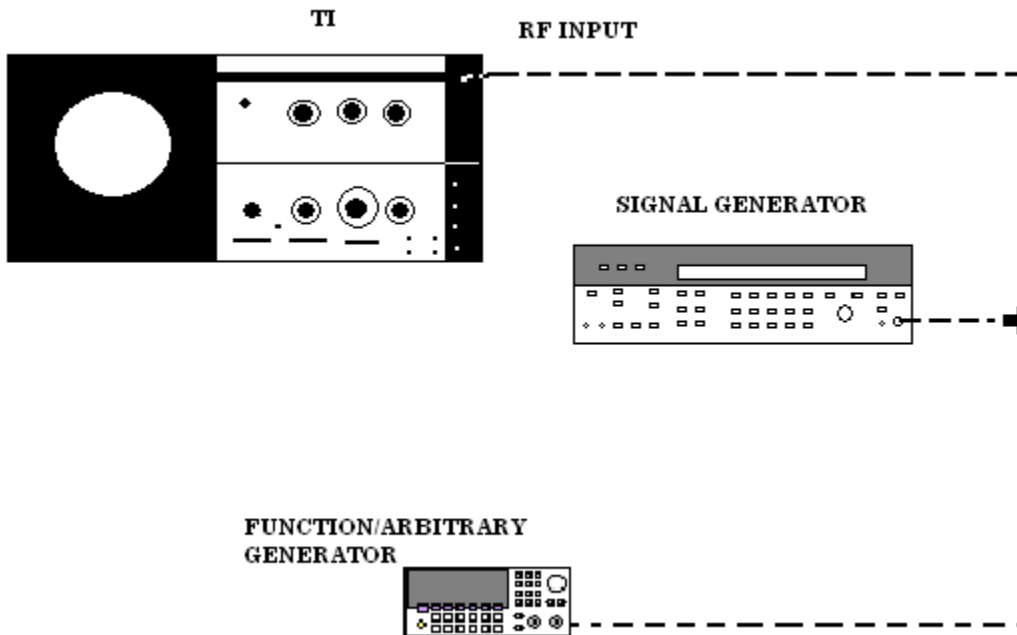

Figure 13. Spurious response - equipment setup.
- (2) Position IF plug-in controls as listed in (a) through (c) below:
- (3) Connect equipment as shown in figure 13.